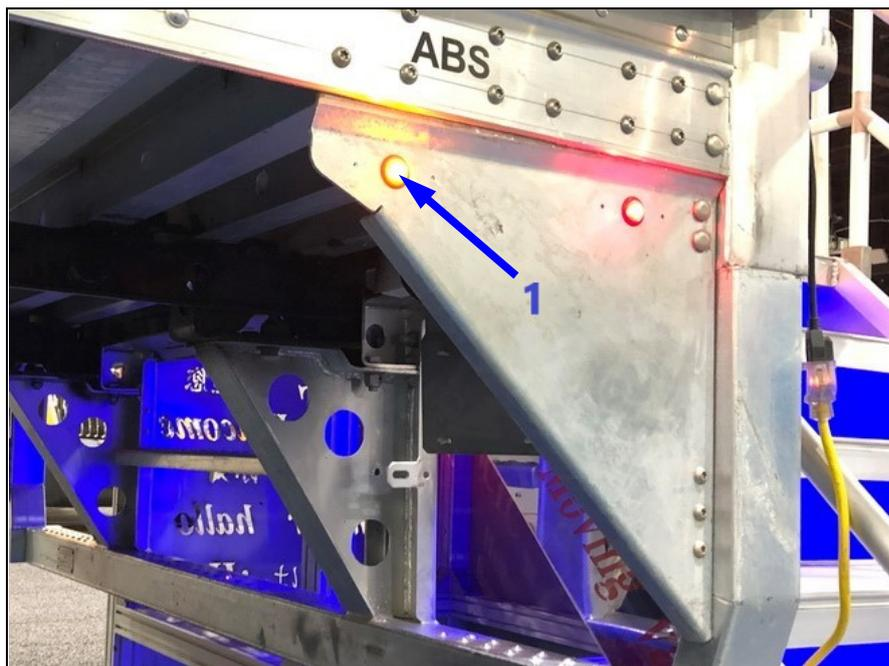

Figure 7-3 - ABS Light
- Check that ABS light (1) on street side rear corner of the trailer is not illuminated. If lamp is illuminated, see the axle and brake manufacturers' manual. See figure 7-3.